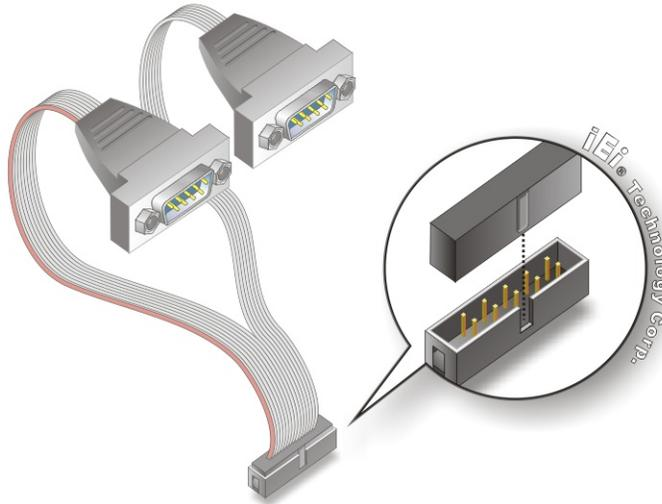

Figure 4-12: Dual RS-232 Cable Installation
Step 2: **Insert the cable connectors.** Insert one connector into each serial port box headers. See **Figure 4-12.** A key on the front of the cable connectors ensures the connector can only be installed in one direction.